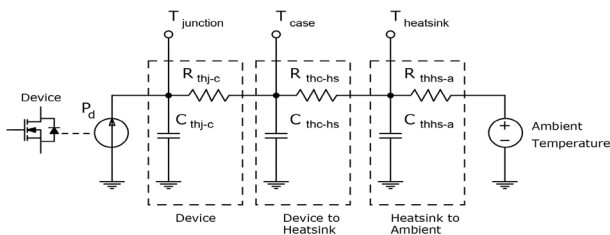
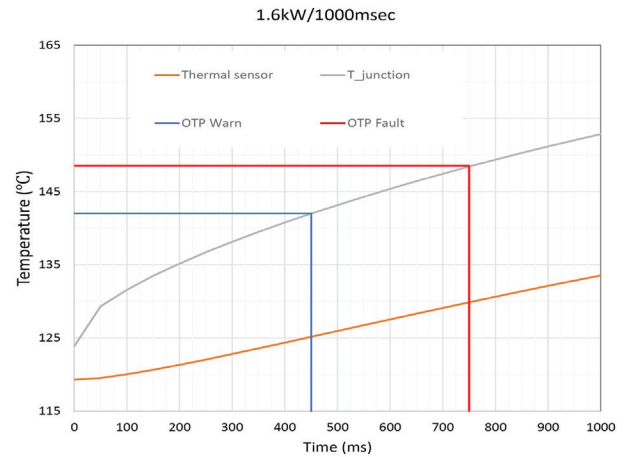
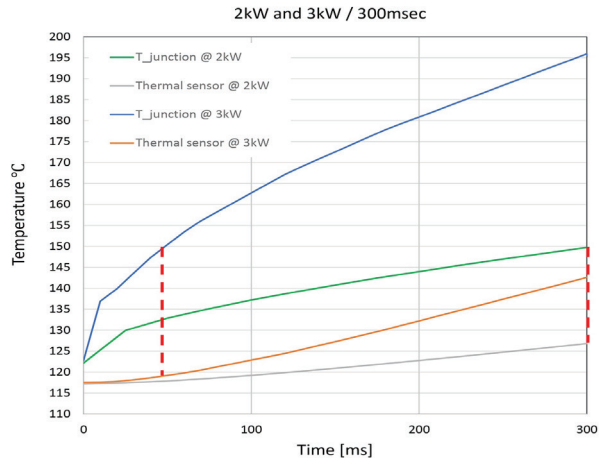

Figure 3: A simplistic thermal model for a semiconductor device with heatsinking
Figure 4: Typical warning and shutdown thresholds for a DC/DC converter during a peak power event
Figure 5: Over temperature protection can be ineffective with high peak power transients
The simple model for heat transfer from a semiconductor junction through thermal interfaces to ambient is shown in **Figure 3**. Thermal resistances are shown as 'R' and capacitances as 'C' which affect the resulting temperatures with transient loading conditions. As the die in a semiconductor is small, the value C_{thj-c} is the smallest of the thermal capacitances by a large margin so a dissipation step at the device can cause a rapid temperature increase locally before the downstream heat path 'catches up'. The 'macro' model of Figure 3 has weaknesses however - it does not reflect coupling of heat between different devices at the local heatsink and local ambient levels. 'Ambient' is not well defined anyway and can vary between physical locations when modelling multiple heat sources together. Also, the model might rely on thermal resistances obtained from device manufacturers, which will be specified under different conditions. An accurate model therefore can only be derived from an actual sample DC/DC converter with empirical data taken in a specified end-product configuration. Flex Power Modules has characterized the complex thermal resistances and capacitances within their products, resulting in a 'micro' thermal model which produces a version of Figure 3 with multiple parallel thermal paths for the various devices, with thermal resistances and capacitances coupling across at each stage. As the junction temperature cannot be sensed directly, these comprehensive models give a more accurate T_j figure. This enables Flex Power Modules to define peak and continuous power capability given defined maximum hot-spot temperatures, to ensure there is no undue stress on the semiconductor junctions.
The maximum continuous load on a DC/DC converter might take the junction temperature of power components, typically MOSFETs, up to a working figure of 125°C. However, a peak power (PP) event is allowed to take this value higher, to the maximum device junction temperature of 150°C or 175°C, T_{JUNCTION} in Figure 3. The time it takes to reach this limiting value is set by the transient thermal impedance of the MOSFET and as said, is usually less than one second. The load cannot be guaranteed to limit its peak power duration in all scenarios, so the DC/DC will include over-temperature protection, typically monitoring a 'hot-spot' with a known thermal resistance to the semiconductor junctions. This would be at position T_{CASE} in Figure 3. A full-function DC/DC will generate a warning signal when the hot-spot exceeds a threshold equivalent to say 142°C junction temperature. This signal can then be used to indicate to the load that it should terminate the peak power demand. If this does not happen, a second hot-spot threshold causes the DC/DC to safely shut down.
Effectiveness of protection measures depends on the DC/DC type. A converter with no peak rating and a current limit a little over its continuous rating can be effectively protected by simple hot-spot over-temperature monitoring. If a converter has a thermal rating of 1k W and a peak rating of, say, 1.6 kW, a ratio of just 1.6:1, the time for junctions to reach maximum levels are relatively long. This means that a temperature sensor can still 'track' the junction temperature relatively accurately and provide protection. This corresponds to the thermal capacitances in Figure 3 'charging' to close to their final value during the load transient. **Figure 4** shows an example of the junction and sensor temperature rises in this converter with its load stepped from 1 kW to 1.6 kW, along with its warning and shut-down thresholds.
However, if a DC/DC is designed with a very high transient-peak to thermal power rating, such as the BMR313 at 3 kW/1 kW (3:1), rate of temperature rise is much higher. This means that the thermal time constant of the over-temperature sensor and its thermal resistance to the MOSFET junction prevents a warning signal and subsequent shutdown occurring before the junction temperature reaches its absolute maximum value, risking device stress and failure. This corresponds to the thermal capacitances in Figure 3 not reaching full 'charge' during the load transient and delaying heat transfer through the chain. **Figure 5** shows this scenario with the temperature sensor rising at around the same rate for both a step load to 2 kW and 3 kW while junction temperature increases at a higher rate, to a potentially damaging level, due to the delaying effect of $C_{\text{THC-HS}}$ in Figure 3. Note that it is assumed that the critical semiconductor junction starts at 125°C. At lower initial temperature, the time before temperature limits are exceeded can be much longer and real-life margins can be much higher. This is, of course, true of all DC/DC types.